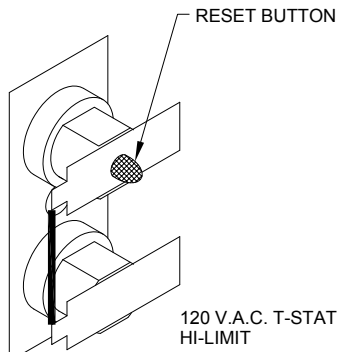

Figure 15
**MODELS SW6DE and SW6DEM (See Figure 15)**